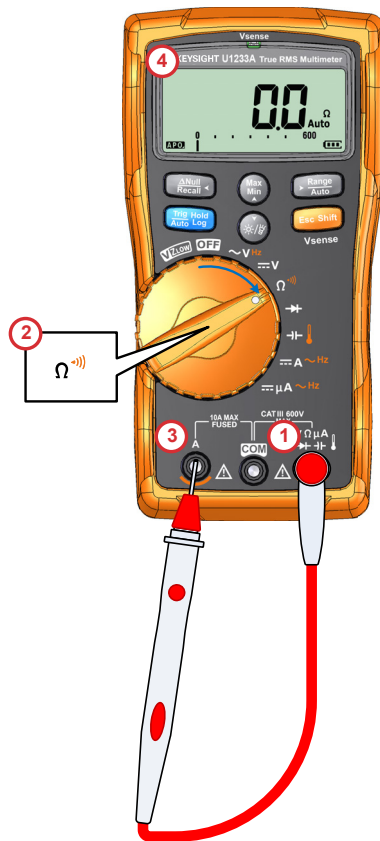

Figure 2-1 Testing the fuse
- 2 To test the fuse, place the tip of the test probe on the top half of **A** input terminal. Ensure that the probe tip touches the metal inside the **A** input terminal, as shown in Figure 2-1.